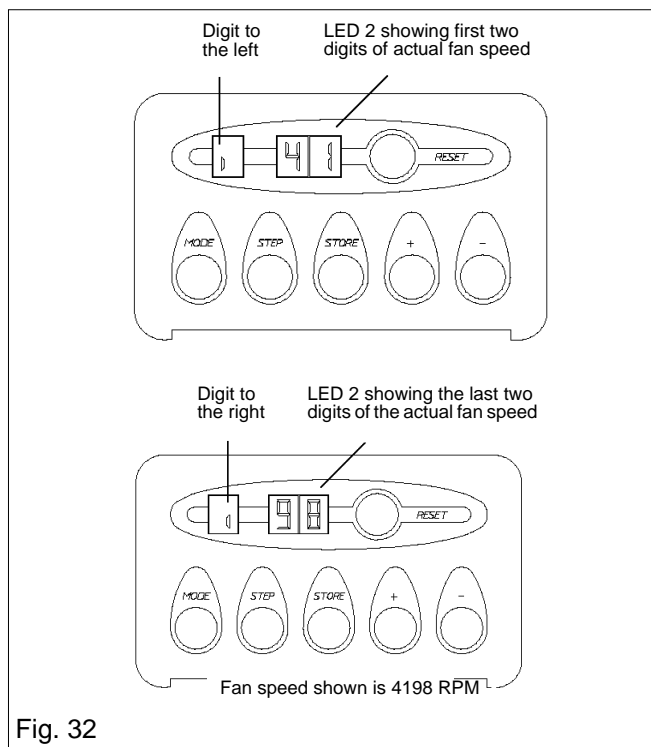

Fig. 32
- when 'H' is displayed in LED 1, press the MODE button until LED 1 shows an alternating cursor (see fig. 32);
- press the MODE button until LED 1 shows an alternating cursor (see fig. 32);